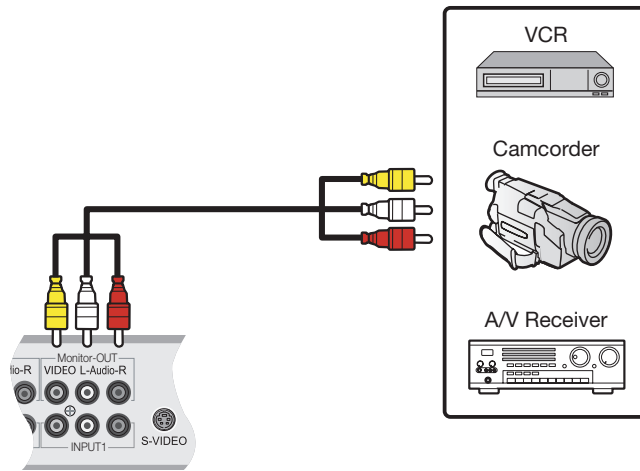

Figure 3-6. AV OUT Connections
- AV OUT Connection** ➤ The Crystal Series LCD has stereo audio and Composite video outputs for connecting to a second VCR or other auxiliary equipment. Connect the AV OUT audio and video jacks to the audio and video inputs of the VCR or other equipment as shown in Figure 3-6.